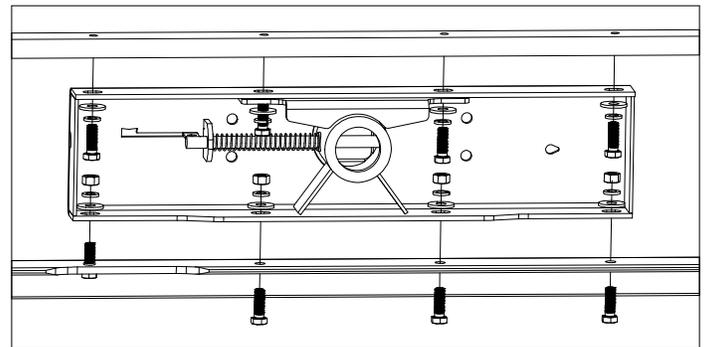

Figure B6: View looking under the truck bed.
4. **Attach the center to the cross members.** Lift the center section so that the raised portion on the top of the center is through the 4" hole drilled in the bed earlier. Secure with a lifting device if available. Slide the front cross member back against the center section so that the bolt installed previously in the front cross member goes into the center section slot directly across from it. Line up the rest of the holes and attach the two members with 1/2" x 1-1/2" long cap screws, flat washers, lock washers, and nuts. Insert four 1/2" x 1-1/2" bolts, with flat and lock washers installed, through the rear leg of the center section into the threaded holes of the rear cross member, see Figure B6. Leave these bolted connections loose, engaging only 3-4 threads, for the time being.